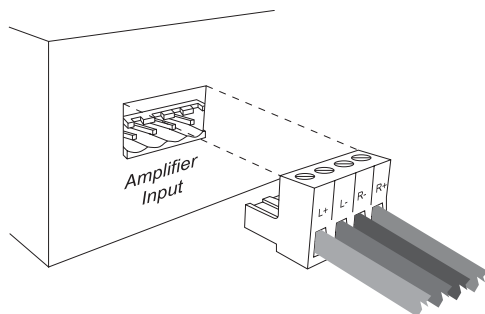

Figure 2
4. Install the connectors to the SS4-200 / SS6-200 (Figure 2).